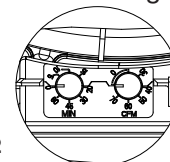

Fig. 2
Example: Flow Selection setting is 100 CFM, Multi-Speed can be chosen 0, 30, 40, 50, 60 or 70 CFM as a low speed. See Fig. 2.
Time Delay: This sets the time required to return to low speed after high speed input is completed. Setting range is 0, 5, 10, 15, 20, 30, 45 or 60 minutes. See Fig. 2.
- Not for use in cooking areas (Fig. 2)
- N'est pas destiné à une utilisation dans des zones de cuisson (Fig. 2).